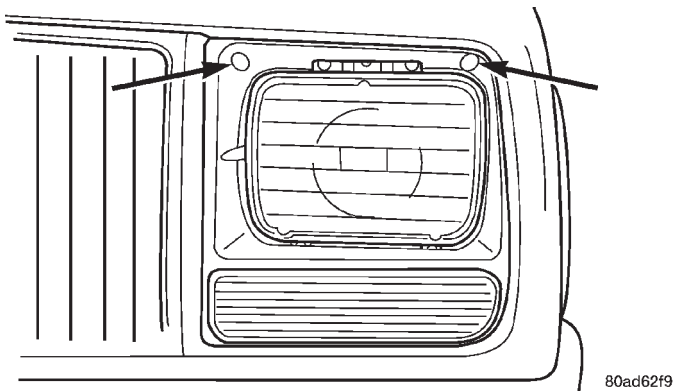

Fig. 5 Headlight Bezel
1. Remove the 2 screws holding the bezel in place and remove the bezel (Fig. 5).